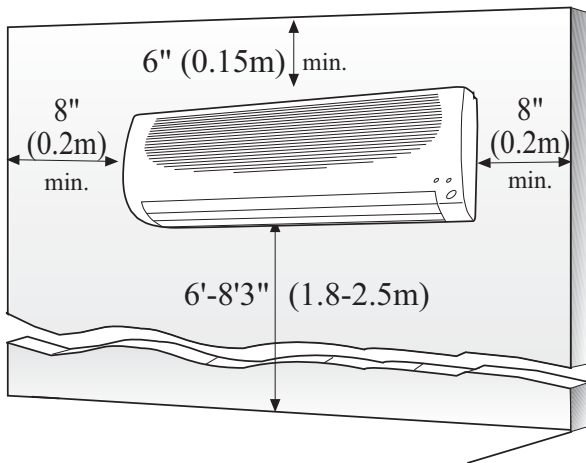

Fig. 2 — Indoor Unit Clearances
- Position the mounting bracket on the wall and level it using a spirit level (see Fig. 2 for minimum required clearance distances).